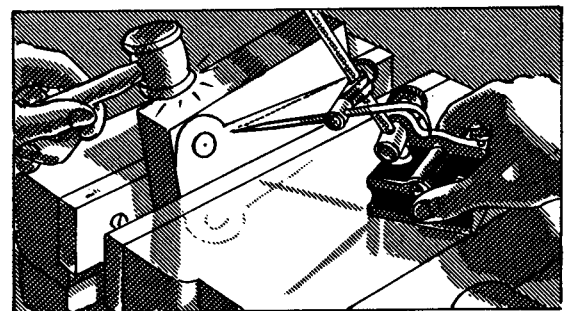

FIG. 304
3. Place the surface gage on the surface which has been prepared for its use; then adjust the point of the scriber to one end of the layout line (Fig. 304).